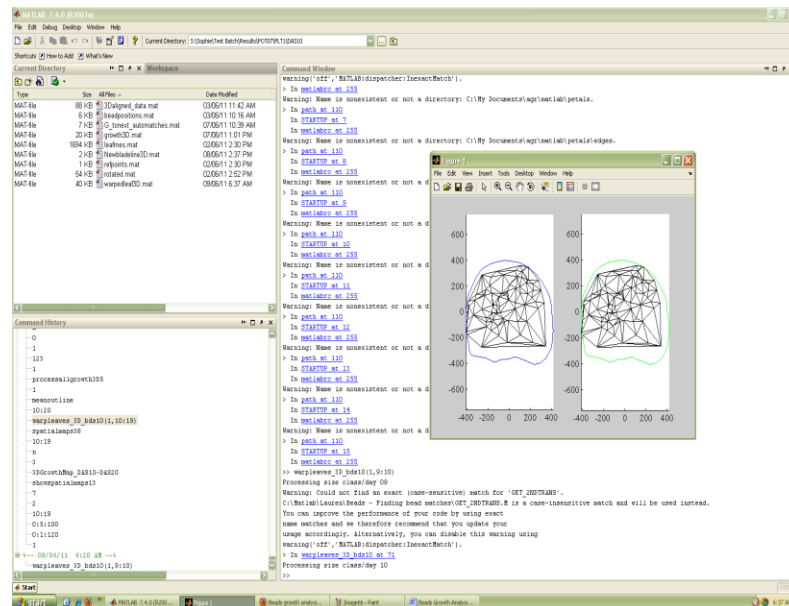

Figure 25. Automatic warping of the leaf outline and triangles to the average leaf outline
3. The program automatically warps the leaf outline and triangles to the average leaf outline for every DAS (Figure 25).